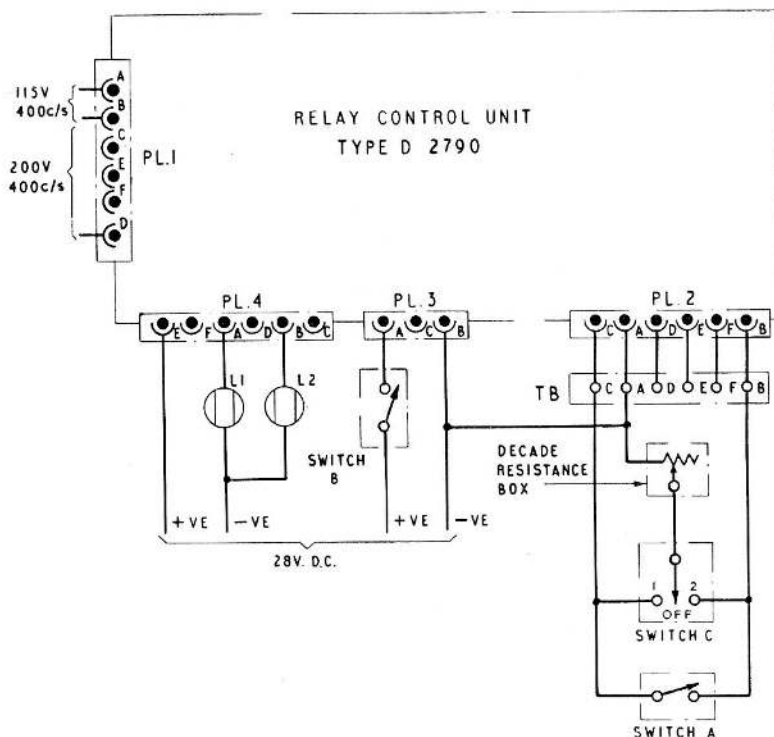

Fig. 1. Test circuit diagram
3. (1) Connect the relay box to a test circuit, as shown in fig. 1, using suitable 6-pole and 3-pole sockets and a 6-way terminal block.